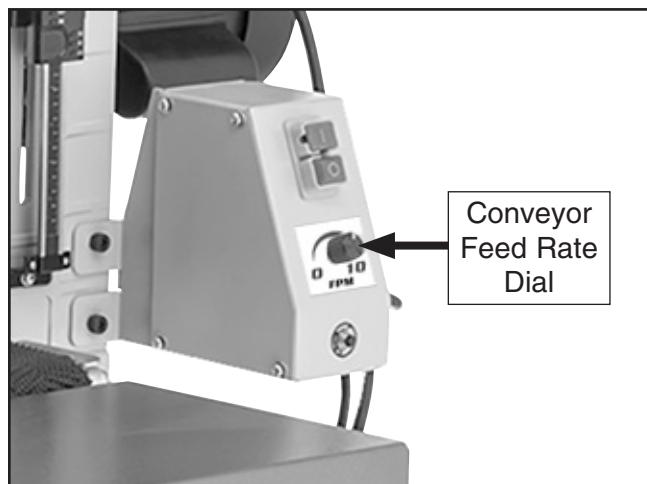

Figure 36. Location of conveyor feed rate dial.
The conveyor feed rate dial (see **Figure 36**) allows you to increase the feed rate from 0–10 FPM. The correct speed to use depends on the type of stock you are using (hardwood vs. soft-wood) and the stage of finish with that workpiece.
2. Rotate conveyor feed rate dial (see **Figure 36**) clockwise to increase feed speed or counterclockwise to decrease conveyor feed speed.